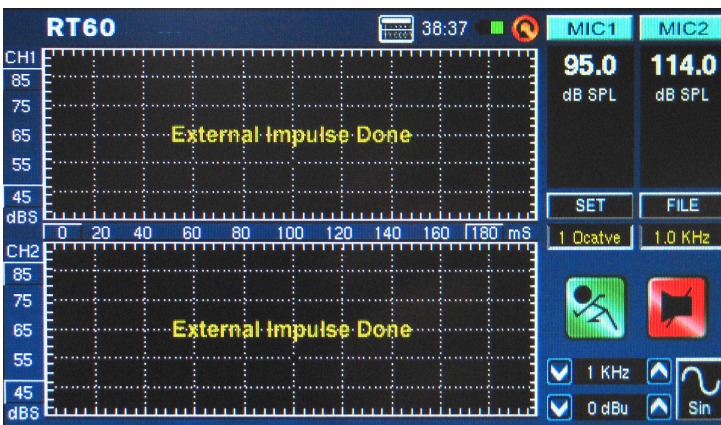

figure 39
6. Slowly move the master fader up to a point where the audio level received by the PAA6 is greater than 30 dB over the background noise. Quickly mute the system to get your RT60 reading as accurate as possible (figure 39).